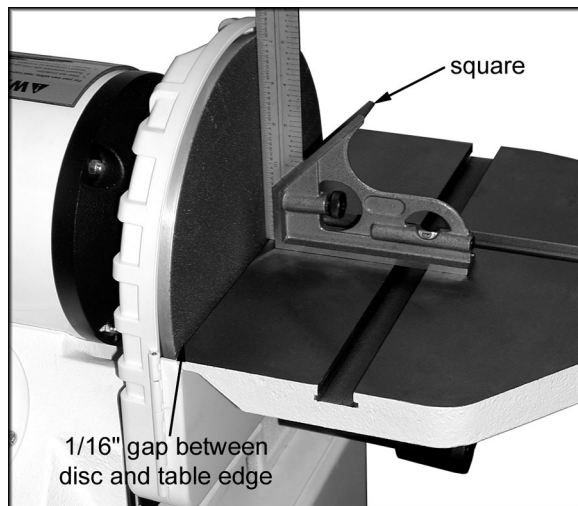

Figure 11
2. Place a square on the table next to the sanding disc (Figure 11). Loosen locking handle and move the table to 90°. Tighten locking handles.